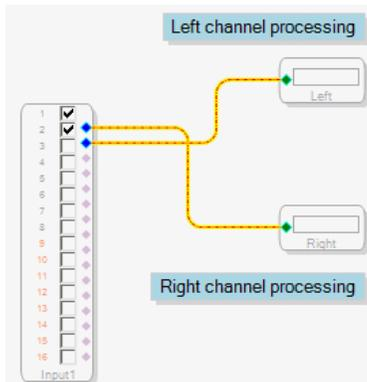

Figure 1. Swapping Channels in SigmaStudio
1. The easiest solution for this problem is to simply flip the channels from the serial input block in SigmaStudio™. In this case, the serial input control register should be set up properly for left-justified mode, as described in the Data Format Configurations table in the AD1940/AD1941 data sheet. Figure 1 shows how this can be done in SigmaStudio. If SDATA_IN0 is used in left-justified mode, then SigmaStudio Input 1 is the right channel data, and SigmaStudio Input 2 is the left channel data. This is the reverse of what is expected in left-justified mode.